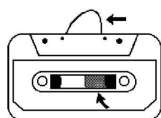
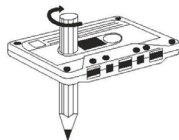

Fig.1
Fig.2
- Check that there are no loose layers of tape visible through the cassette center window (see Fig. 1). Take up any loose layers, using a pencil or hexagonal barreled ballpoint pen, before inserting the cassette into the machine (see Fig.2)
- If the cassette feels tight while performing operation shown (see Fig.2), the tape may be jamming due to ridges formed in the winding of the tape (visible through the center window). These may be removed, in most cases, by fast winding of the cassette from one end to the other and back again.